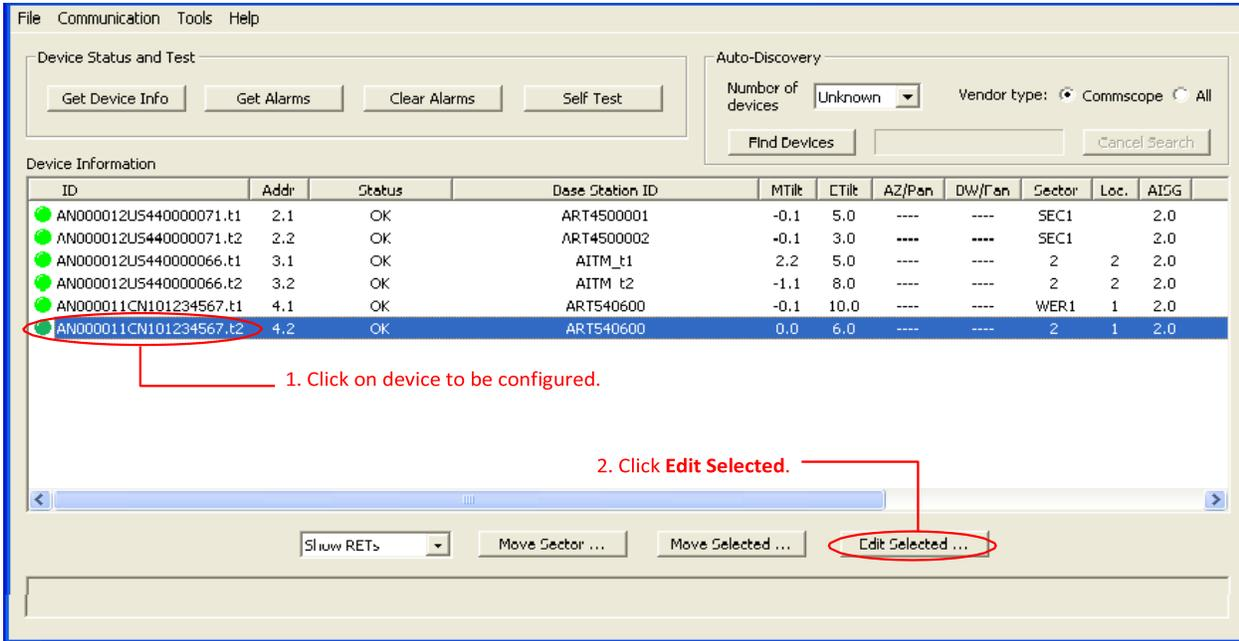

Figure 6-6. Selecting Device to be Configured.
2. To begin device configuration, click on the device to be configured (Figure 6-6).
3. Click on **Edit Selected** to open the **Configuring Device** screen (Figures 6-6 and 16-7).
12. Note that not all of the items that were configured are displayed on the main screen. To verify that each of the items configured were set correctly, select the device in the **Device Information** list and click **Edit Selected** to review each item (Figure 6-6). Click the **Cancel** button on the **Device Configuration** screen when finished with verification.